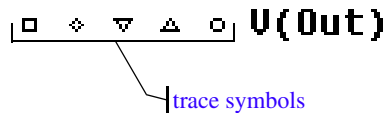

Figure 17-4 Trace legend symbols.
1. In the trace legend, double-click the symbol for the trace you want to identify (Figure 17-4).